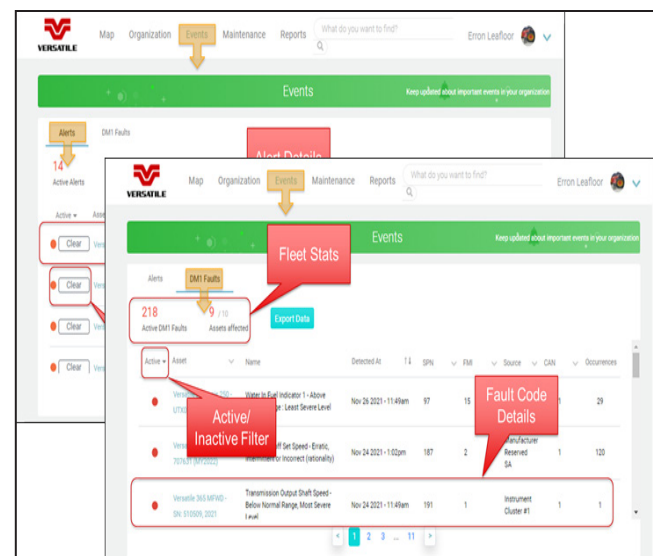

Figure 5-35 Events Menu - Faults/Alerts
- Viewing your entire fleet's Fault/Alert history in the Events Menu (Figure 5-35).